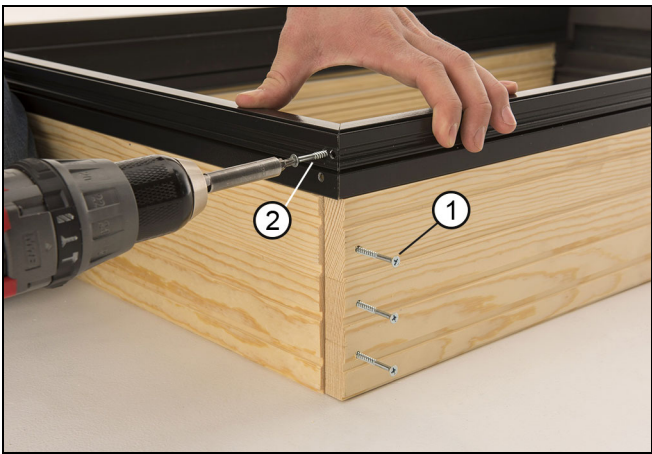

Figure 6
4. Fasten the jamb to the head jamb. Do not over tighten clad miter joint. See Figure 6